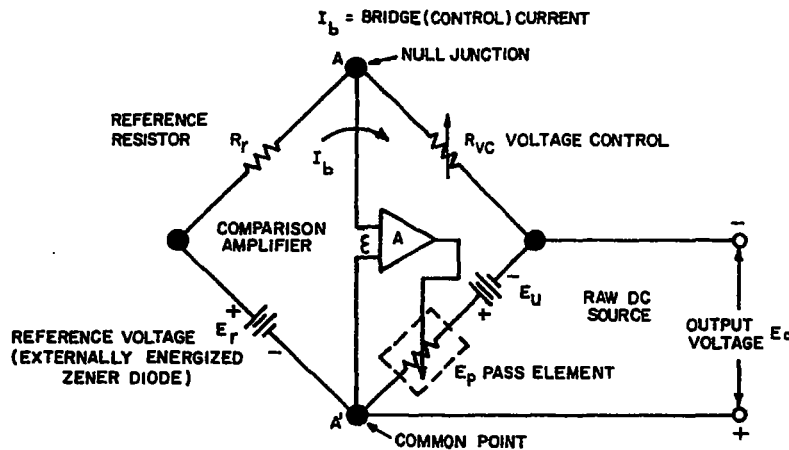

FIG. 3-4 KEPKO POWER SUPPLY AND COMPARISON BRIDGE CIRCUIT.
3-9 GENERAL. Electrically, the power supply consists of the raw d-c source (E_U), the pass element (E_p), the d-c error amplifier (A) and a comparison circuit which resembles a four-arm electrical bridge. (Refer to FIG. 3-4). The elements of the bridge are arranged to produce a virtual zero at the amplifier input when the bridge circuit is at balance ($V_{AA'} = 0$, when $E_r/R_r = E_o/R_{VC}$). Any tendency for the output voltage to change in relation to the reference voltage (E_r) creates an error signal (ϵ) which, amplified by the d-c error amplifier, tends to correct the output voltage towards restoration of bridge balance.